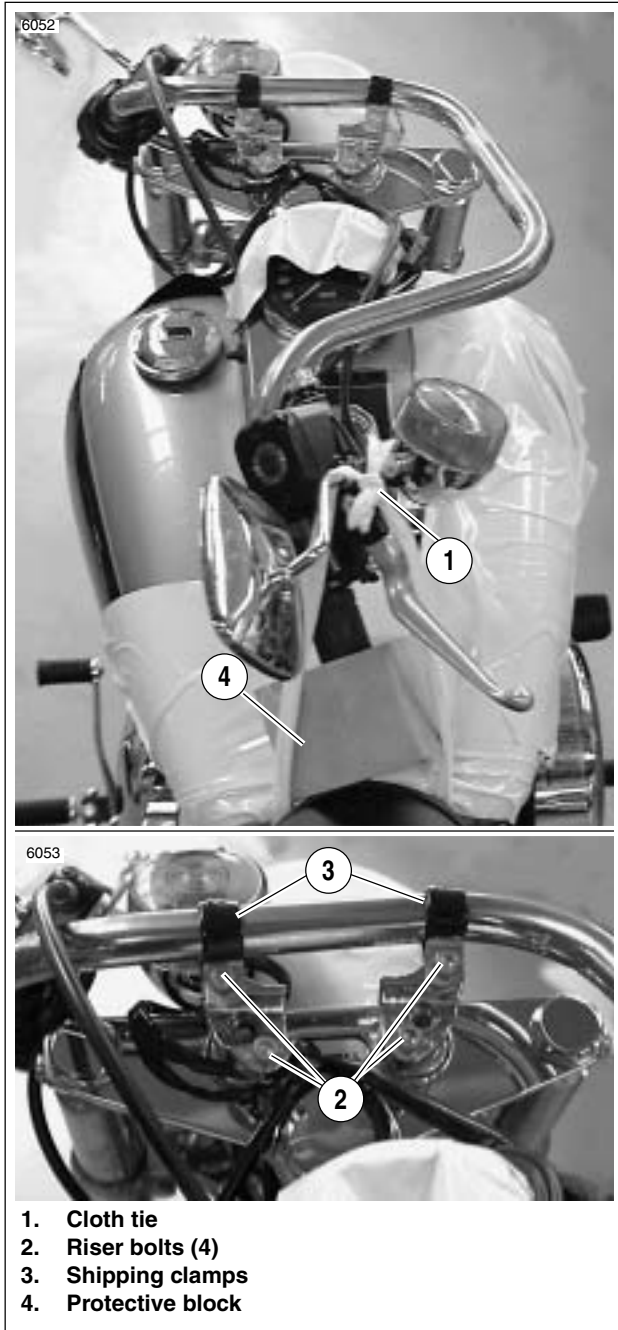

Figure 1-8. FXDWG
1. See Figure 1-8. Remove and discard cloth tie (1) securing handlebar.
2. Remove the four bolts (2) from the riser. Retain the four bolts.
8. Attach brake line to bottom of steering stem with clamp (4) and screw (5). Tighten to 96-120 in-lbs (10.9-13.6 Nm).
9. See Figure 1-8. Remove shipping clamps (3) from the handlebar. Remove protective block (4) on throttle. Discard shipping clamps and protective block.